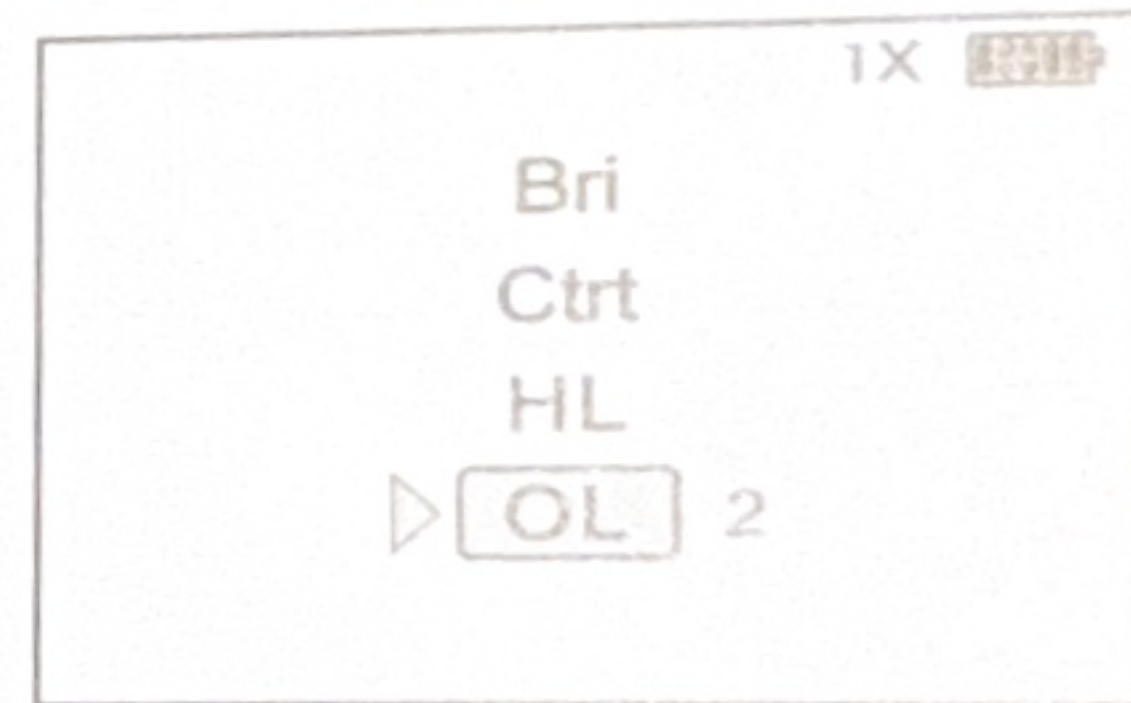

Fig 12
d. Outline (OL) Intensity: From the IMG menu, press the  $\nabla$  button to enter the OL function. Click the  $\square$  button to adjust OL. Press the  $\Delta$  and  $\nabla$  buttons to adjust OL intensity from 1 to 5. After selecting your outline (OL) intensity setting, press and hold the  $\square$  button to return to the previous menu. (See Figure 12)